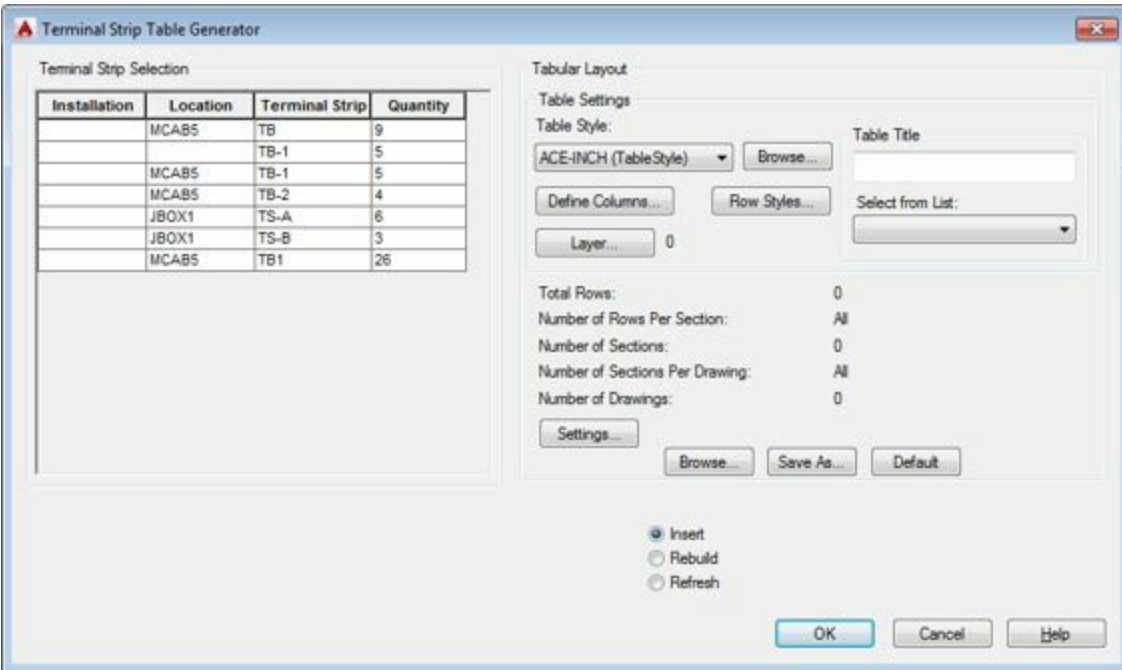

Figure-30. Terminal Strip Table Generator dialog box
- Click on the **Table Generator** tool from the **Terminal Footprints** panel in the **Ribbon**. The **Terminal Strip Table Generator** dialog box will be displayed; refer to Figure-30.